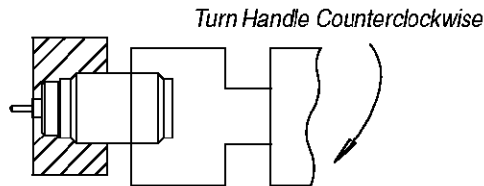

Figure 5
4. Thread the jack into the connector housing by turning the handle of the torque tool *clockwise* until the handle releases. See Figure 5, Detail A.
5. While holding the collet of the torque tool with the open wrench, turn the handle *counter-clockwise*, and remove the jack assembly from the torque tool. See Figure 5, Detail B.